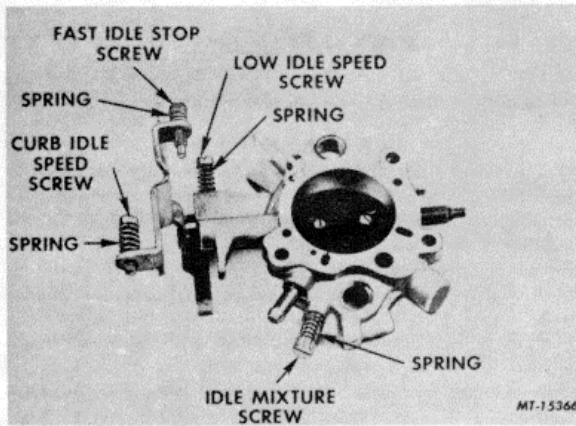

FIG. 19. Throttle Body and Idle Adjustment Screws
2. Remove the curb idle screw and spring. low idle screw and spring and fast idle screw and spring. Certain applications may not have all of these screws (Figure 19).